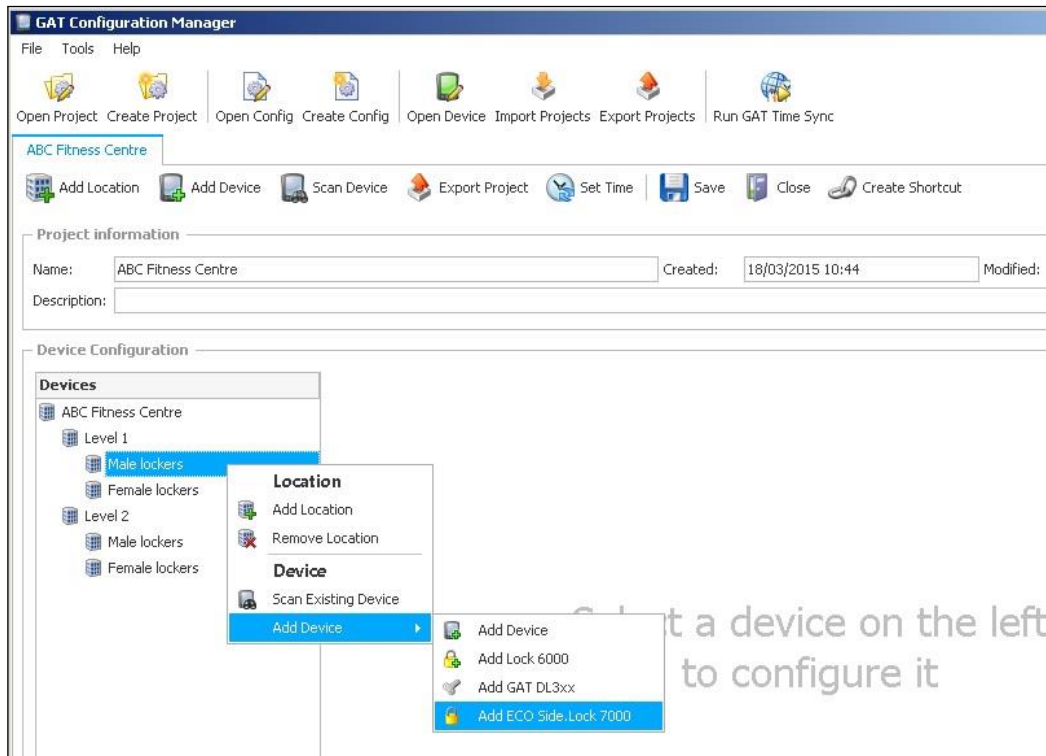

Figure 5.3– GAT Config Manager – Adding a GAT ECO.Side Lock 7000 BA
- ▶ To add a GAT ECO.Side Lock 7000 BA to a location, right-click on the location and select "Add ECO.Side Lock 7000" from the "Add Device" menu (Figure 5.3).